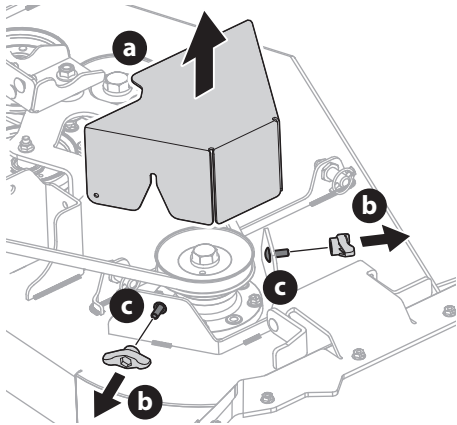

Fig. 41
- To remove the belt covers (a), remove the wing knobs (b) from the carriage screws (c) securing it to the deck (Fig. 41).